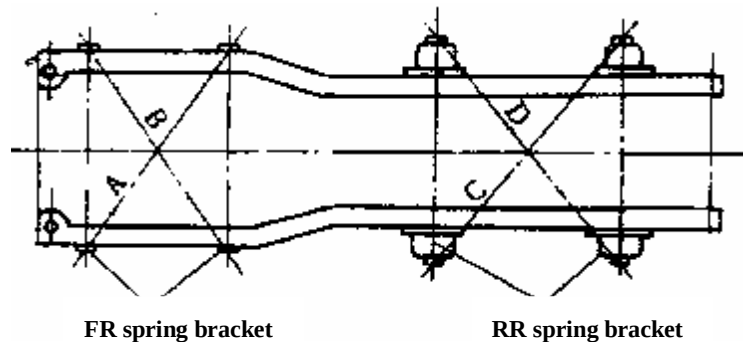

Figure 7-9-3 Check frame assembly diagonal lines
(1) Upper surfaces of LH/RH side members should be in a plane, flatness deviation through whole length should not be more than 3mm.
(2) For outer side surfaces of LH/RH side members, their upper and lower width deviation in same section should not be more than 2.5mm.
(3) Distance difference between left and right bracket pin hole axial of front spring leaf should not be more than 2mm.
(4) Length difference between diagonal line A and B , C and D should not be more than 2mm (figure 7-9-3).